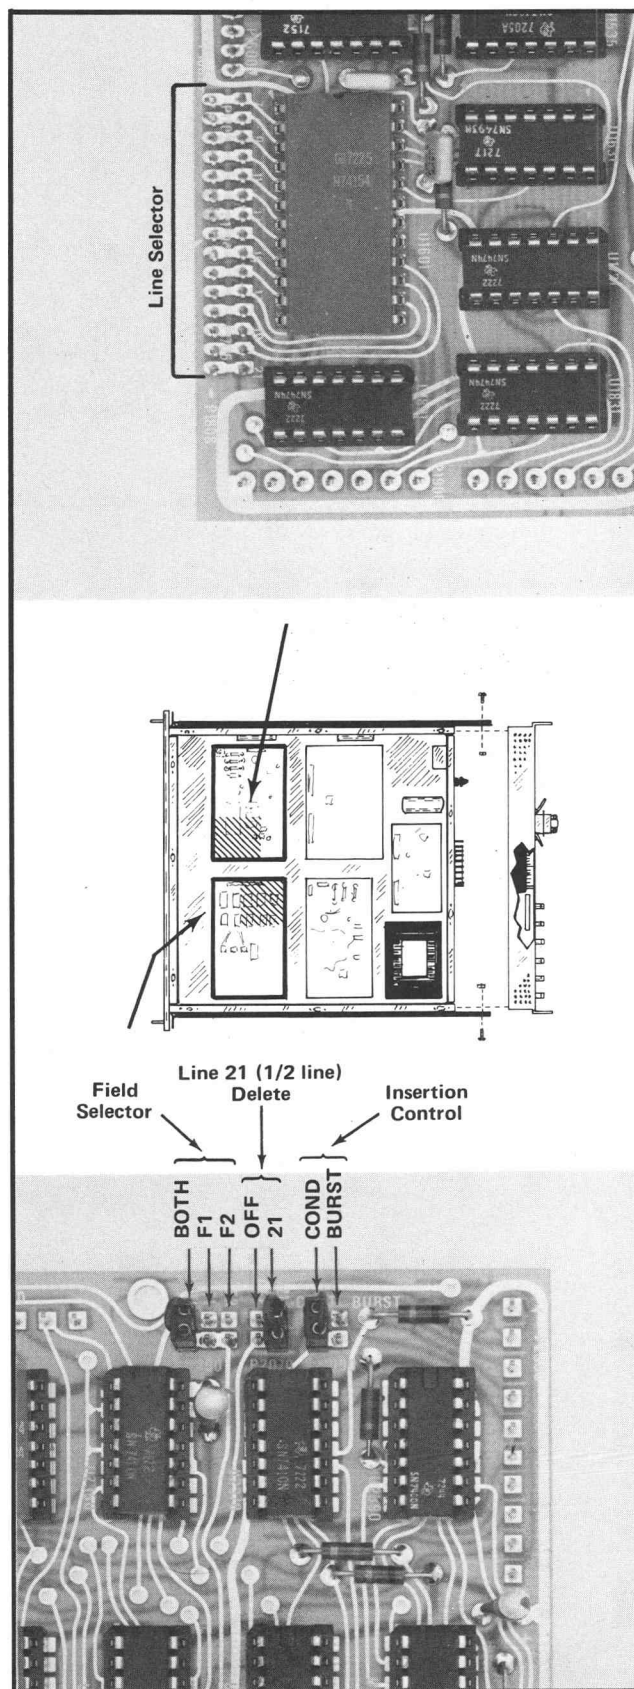

Fig. 1-2. Operating change locations
This procedure is intended to familiarize the operator with the various functions of the 1441. The procedure requires use of (1) a video test signal source capable of providing composite video, VIT Signals (programmable to any line), and a VIR Signal; (2) a waveform monitor to observe field and line rate displays. See Fig. 1-2 for location of jumpers mentioned in this procedure.